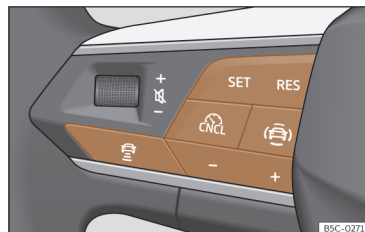

Fig. 141 On the multifunction steering wheel: buttons for operating the ACC.
- Press the button on the multifunction steering wheel >>> **Fig. 141**.
- To start regulation, press the **SET** button >>> **Fig. 141**.
- Press the button and then + or - button >>> **Fig. 141**.
- Briefly press button >>> **Fig. 141** or press the brake pedal.